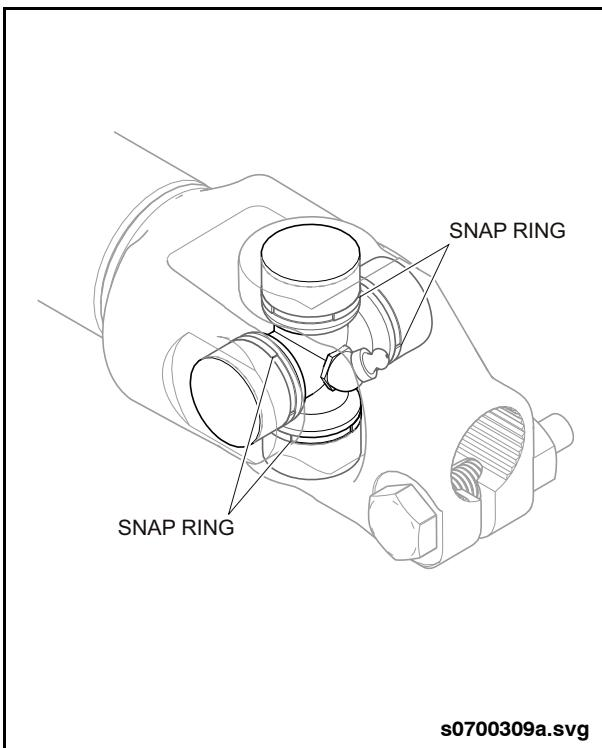

Fig. PM-8: Snap Ring Inspection
3. Inspect the U-joints to ensure that all snap rings are installed and fully seated within the groove on the bearing cup. The bearing cup must not protrude any more than 0.105" beyond the surface of the yoke bore. See "Fig. PM-8: Snap Ring Inspection" on page 33.